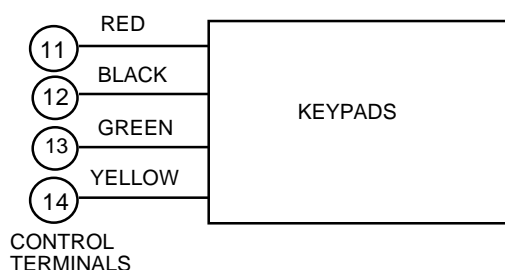

Figure 5-1. Keypad Connections to Keypad Port 1
4. If you are using only one keypad, it may be connected to either Keypad Port 1 or 2, and must be mounted on or within 3 ft. of the cabinet. If you are using multiple keypads, connect one to Keypad Port 2 and mount it on or within 3 ft. of the cabinet. Set the main keypad to an address of 00 (this address cannot be disabled in programming). You can mount additional keypads where desired, and connect them to Keypad Port 1 terminals 11, 12, 13, and 14, as shown in *Figure 5-1*. The keypad on Port 2 is electrically isolated from those on Port 1, and will continue to function even if wiring problems prevent the other keypads from working properly.